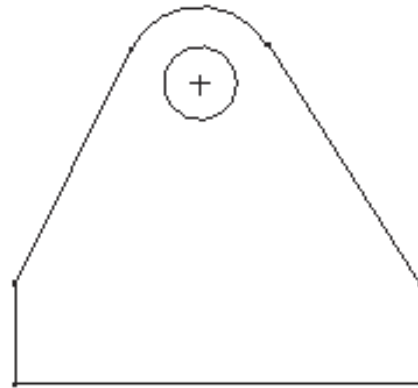

Figure 1-30 Sketch after drawing all the entities
5. Size this circle approximately by moving the mouse and complete it by using the left mouse button. The circle drawn is shown in Figure 1-30.